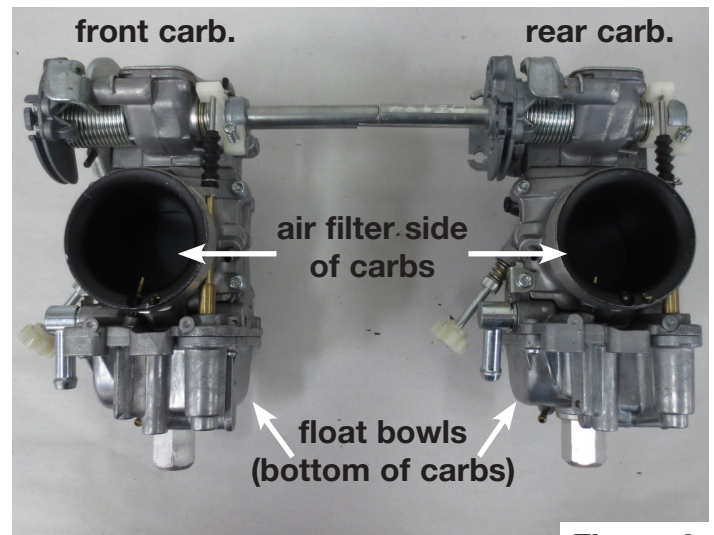

Figure 6
- 6) Install the new throttle/choke cable bracket onto the rearward carburetor. Use the supplied M6 flange bolts and self locking nuts. The bottom hole in the carburetor bracket is threaded, the top hole is not. Tighten the hardware using (2) 10mm wrenches. Figure 6.